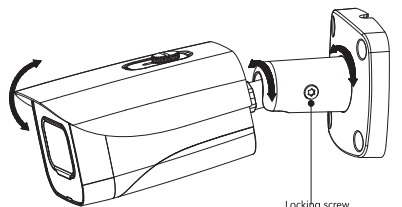
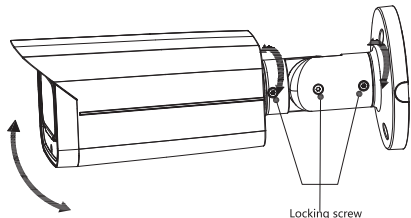

Figure 3-3
Figure 3-4
- Step 1** Find the mounting template sticker from the accessory pack and stick it to the mounting surface. ⑤ Drill screw holes (and the cable outlet hole if it needs to go through the mounting surface) on the mounting surface as indicated on the mounting template.
- For masonry mounting surface, insert expansion bolts ④ from the accessory pack in the screw holes.
- Step 3** Adjust the location of the bracket ③ according to cable outlet requirement (top out or side out), then pull the cable out through mounting surface or the side wire tray. Align the screw holes on the bracket ③ to those on the mounting surface, then put in and fasten the supplied self-tapping screws ② to attach the device ① to the mounting surface.
- Step 5** Loosen the locking screw first, aim the lens to the ideal angle and adjust the focus until you get clear image (see Figure 3-3 or Figure 3-4), and then fasten the locking screw.